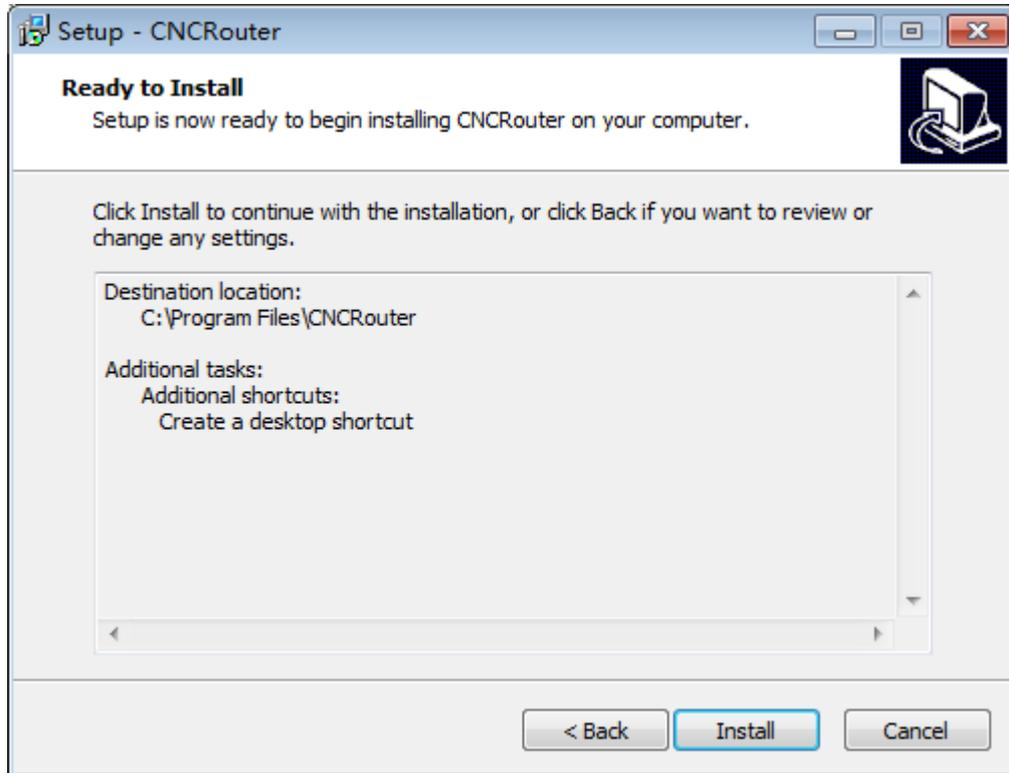

Figure 2.2-4
(6)Click next, the program is ready to install, and the dialog box pops up, as shown in figure 2.2-4: